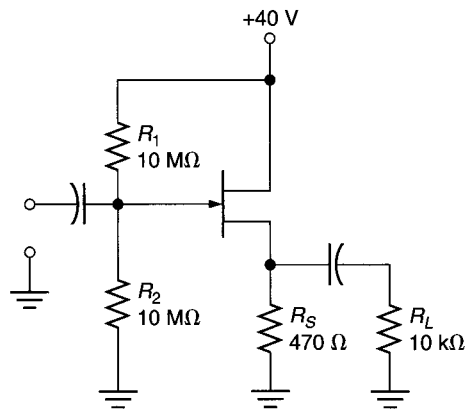

FIGURE 12.77
51. The 2N5486 cannot be substituted for the JFET in Figure 12.77. Why not?